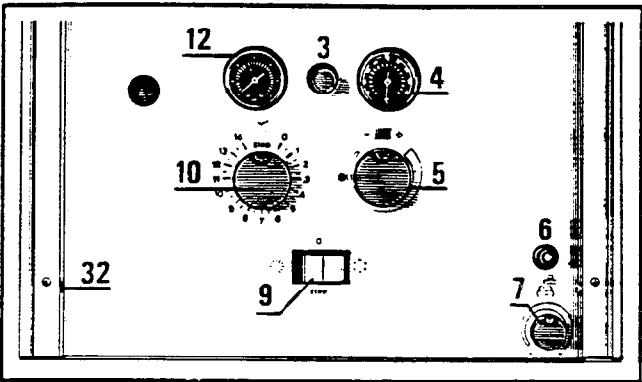

Fig. 18
- Turn gas service tap to left to sign (A).
- With the left hand push in the pilot button (3) (fig. 18). With the other hand push the ignitor button (6) (fig. 18). When the pilot light is established hold the pilot button pushed in for 30 seconds.
- Switch the main electric switch (9) (fig. 18) to start the pump. The firing of the main burner is initiated by the starting of the pump.
Your boiler is designed to give hot water at a temperature of 60° C. with the temperature selector on +, (7) (fig. 18), when a tap is turned on. The maximum flow rate will be : 6 l/min (1.32 gpm) for the 2.20 RSc unit and 8 l/min (1.75 gpm) for the 2.24 RSc unit. It is possible to obtain higher water volumes at lower temperature - to fill a bath for example, turn the temperature selector to the sign - and open the bath tap fully.
Set the boiler thermostat 5 (fig. 18) on the boiler as a function of the external temperature and the required internal temperature.
- In cold weather the boiler thermostat (5) (fig. 18) can be left in the position +.
- Put the control switch (9) (fig. 18) to the summer position « ☉ ». The boiler will now operate only on hot water demand.
- If the pressure on the pressure gauge (12) (fig. 18), falls below 1 bar when cold re-pressurise the installation as follows.
- When pressure is about 1.5 bar (12) (fig. 18) close the fill valve.
### To remove the cover (fig. 18)